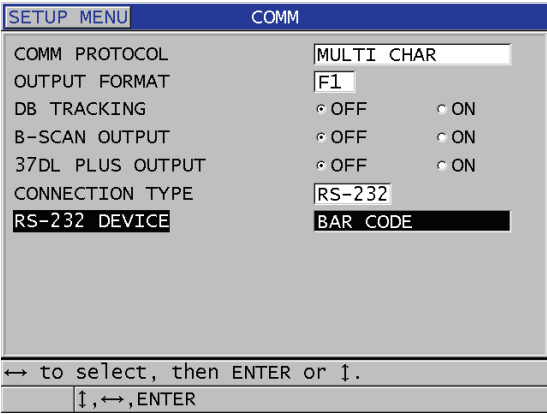

Figure 11-30 Selecting the bar code RS-232 device
3. In the **COMM** screen (see Figure 11-30 on page 194):